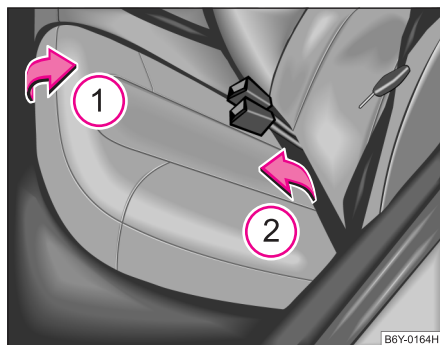

Fig. 53 Folding the rear seat forwards
- Pull up the rear seat in the direction of arrow ① ⇒ fig. 53 and fold forwards in direction of arrow ②.